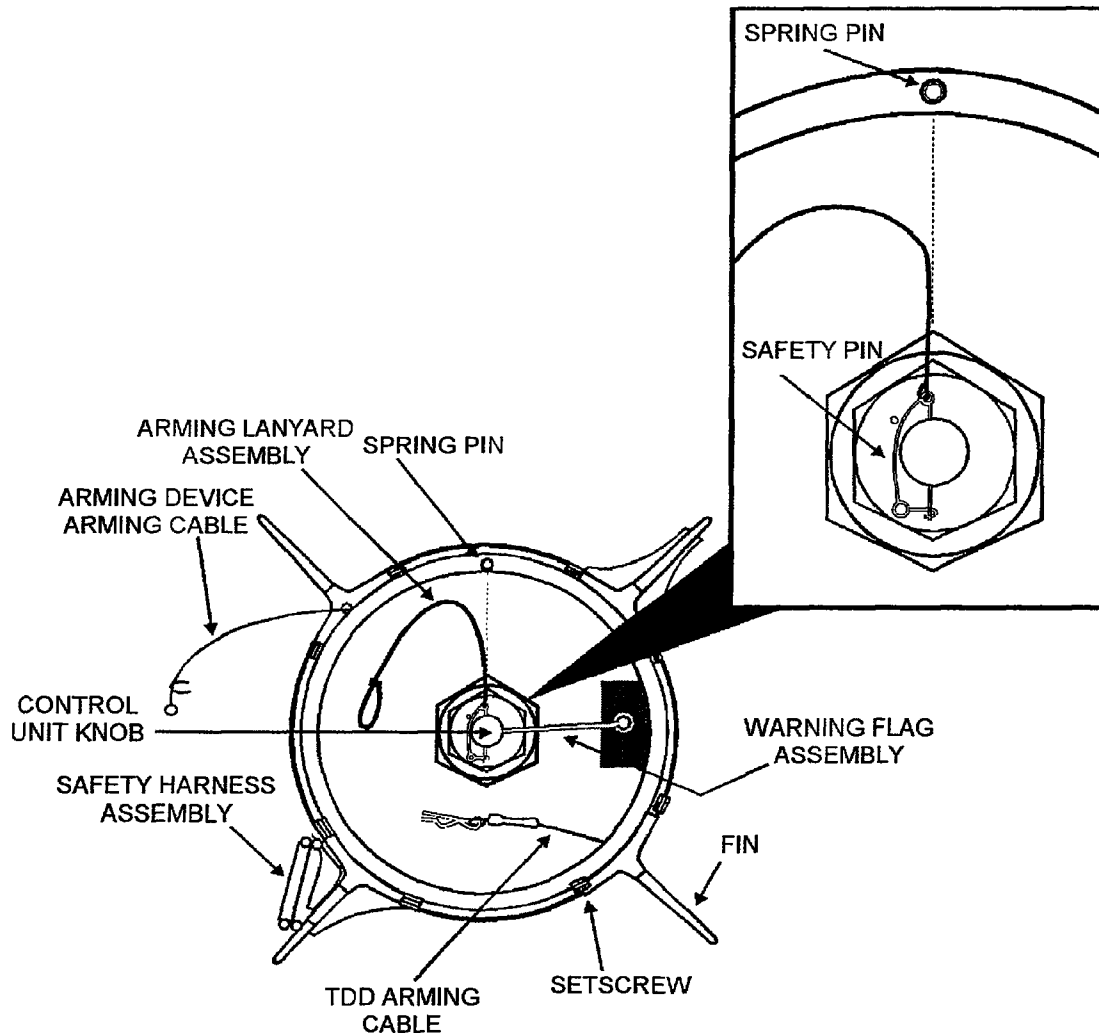

Figure 4-8B. Tail Section Mk 16 Control Unit
- b. Ensure safety pin of arming lanyard assembly is installed in control unit (Figure 4-8B, detail A).
- g. If necessary, rotate control unit housing so safety pin on arming lanyard assembly is aligned with spring pin in tail as shown in Figure 4-8B.
- (1) Cut a piece of safety wire approximately 36 inches long.
- (2) Thread the safety wire through the eye of the arming lanyard.
- (3) Thread the two ends of the safety wire through the tail arming lanyard hole, then use the safety wire to pull the arming lanyard through the arming lanyard hole.
- (4) Remove safety wire from lanyard eye. Ensure arming lanyard leads directly to tail arming lanyard hole and is not wrapped around control unit.